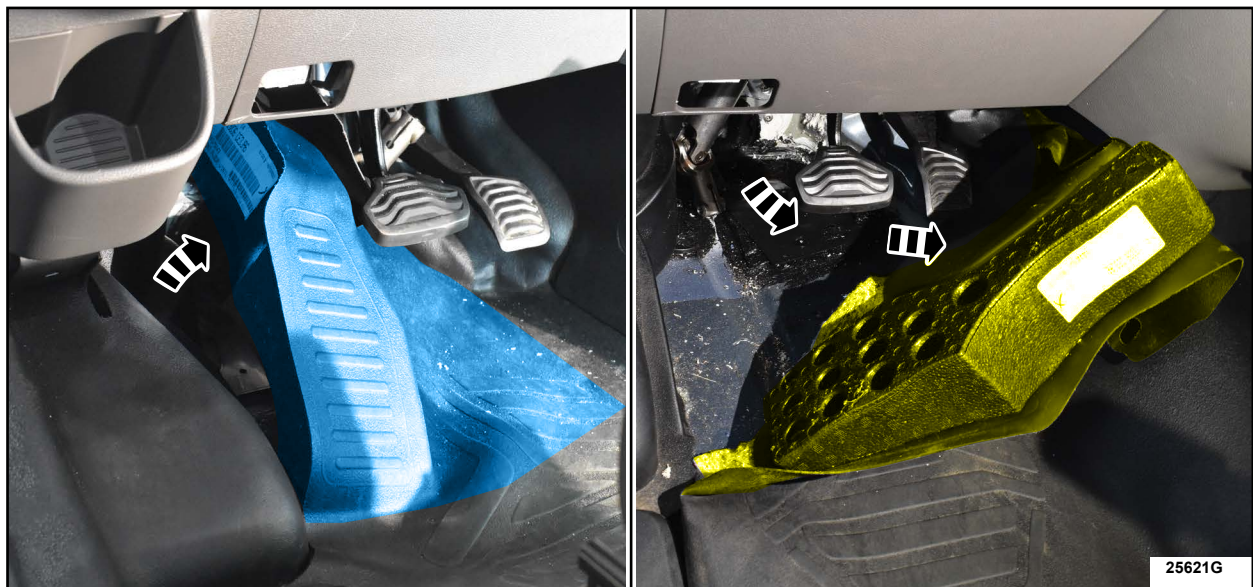

FIGURE 23
11. Fold the rubber flooring, including the foot rest, under the pedals and position it towards the center of the vehicle as shown in Figure 23.